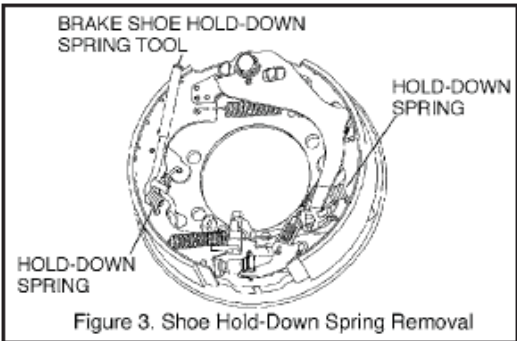
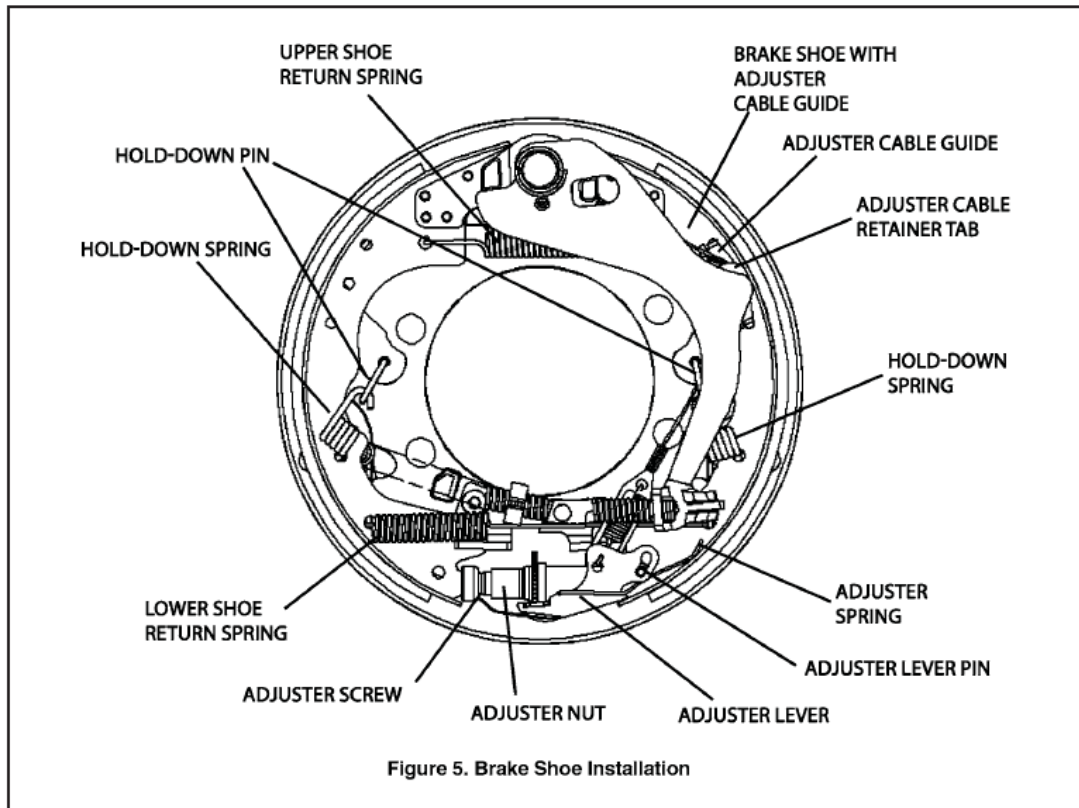

Figure 3. Shoe Hold-Down Spring Removal
Figure 5. Brake Shoe Installation
- (9) Remove both shoe hold-down springs. Use a brake shoe spring tool as shown in Figure 3.
- When installing new shoes, make sure the shoe with the adjuster cable guide and adjuster lever pin is installed on the correct side of the shoe. See Figure 5.
- (5) Place one shoe into the installed position. Reattach shoe hold-down spring and pin. See Figures 3 and 5.
For Steps (5) through (10), proper orientation of the various springs, including their hook-ends must be maintained, as shown in Figure 5, for proper brake function.
- (6) Position the second shoe and the adjuster nut and screw assembly as shown in Figure 5. The adjuster nut (internally threaded) should be seated against the shoe with the adjuster cable guide and pin. Reattach shoe hold-down spring to shoe hold-down pin using the brake spring tool as shown in Figure 3.
- (7) Install both shoe-return springs as shown in Figure 5.
- (8) Install the adjuster spring and the adjuster lever. Ensure that the adjuster lever is properly seated against the starwheel as shown in Figure 5.